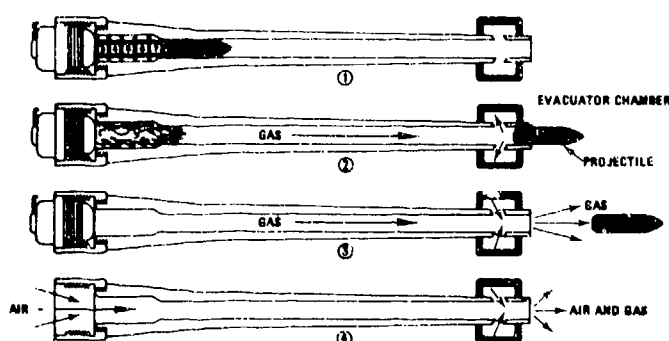

Figure 2-29. Bore evacuating principles.
(1) When a weapon is fired and the projectile has passed the evacuator valves, located some distance to the rear of the muzzle, some of the propellant gases flow into the evacuator chamber ((2), fig 2-29) creating a high pressure in the chamber. This action continues until the projectile leaves the muzzle, at which time the gases in the bore are suddenly released. When the pressure in the bore drops, the gases flow from the evacuator chamber through the evacuator valves into the bore ((3), fig 2-29).
(2) As the gases flow through the valves at a high velocity, they tend to draw gases from the rear portion of the bore. While gases are escaping from the evacuator chamber into the bore, the breech is opened, allowing air and gases to flow through the bore and out the muzzle ((4), fig 2-29). The breech must be opened before all the gases have escaped from the evacuator chamber; therefore, an evacuator can be used only on a weapon equipped with a semiautomatic breech mechanism.